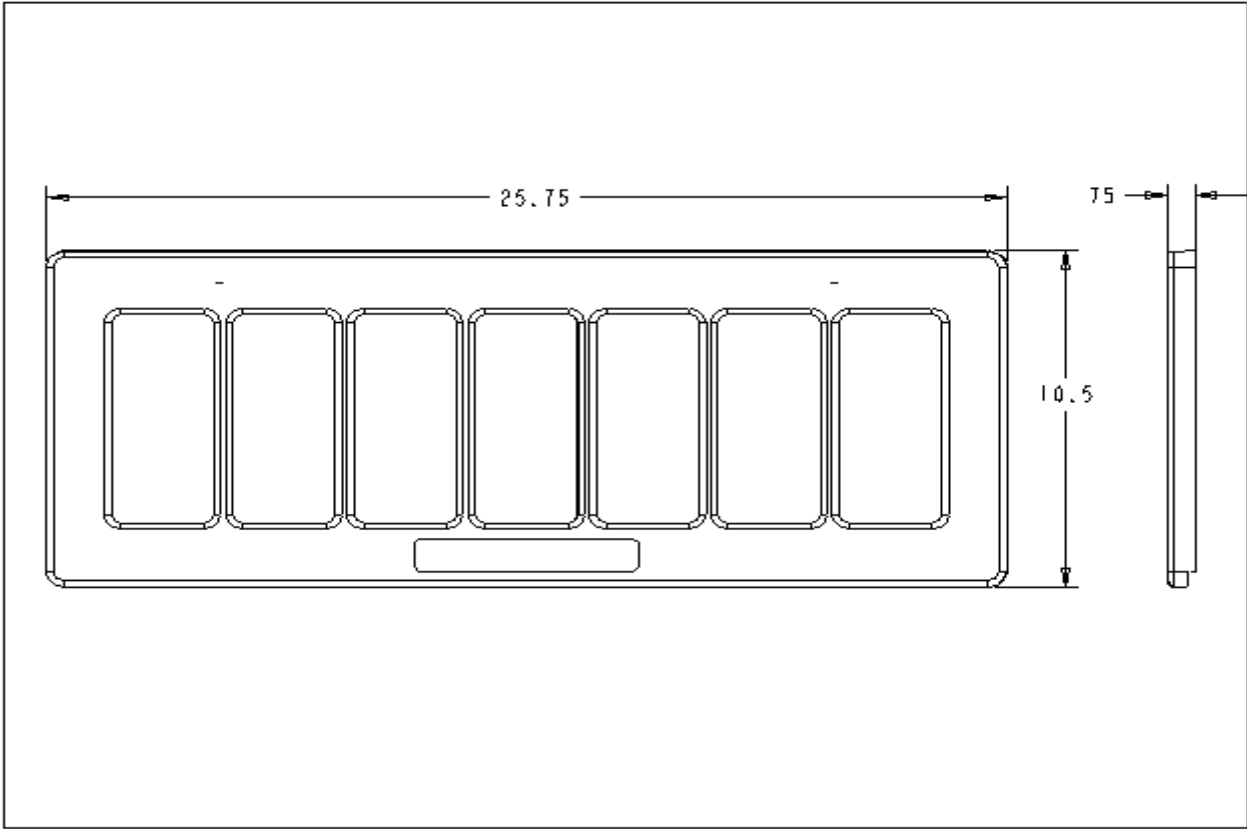

Figure 7, 6-Module, Front Panel
3.2.1.2 The second front panel (Figure 7) is 25.75 inches long and will accommodate one Control Module and six other modules.